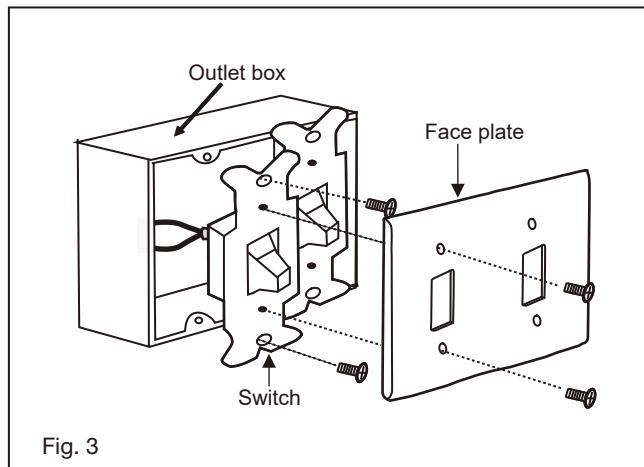

Fig. 3
- 1 Remove the existing wall plate and old switch from the wall outlet box. (Fig. 3)
A DOWNWARD airflow creates a cooling effect as shown in Figure 3. This allows you to set your air conditioner on a warmer setting without affecting your comfort.